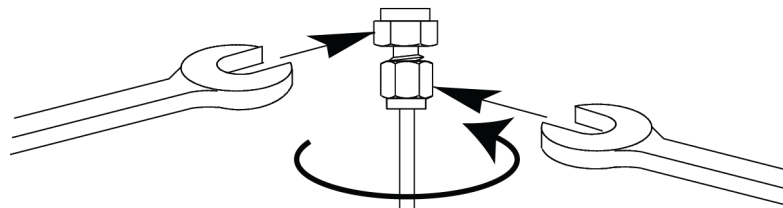

Figure 21. Final tightening
7. For 1/8-inch Swagelok fittings, use a pair of wrenches to tighten the fitting 3/4 of a turn. See Figure 21.